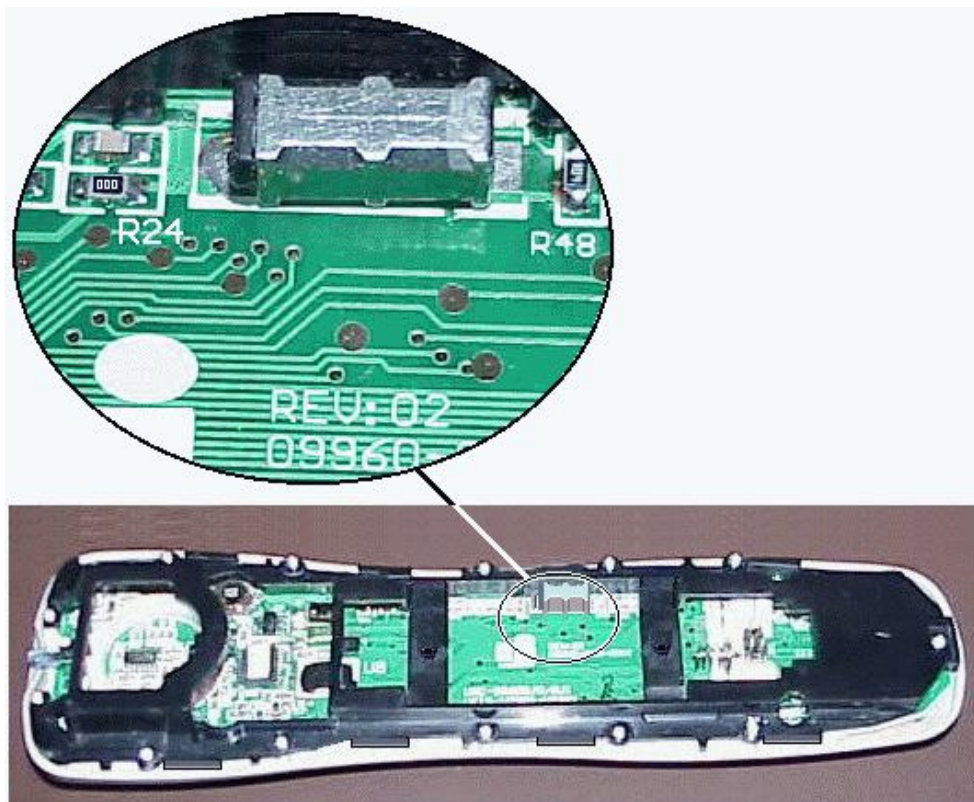

Figure 3. Motion Sensor Switch on Main Circuit Board
Figure 3 shows the underside of the upper assembly, with the motion sensor soldered to the circuit board. All the stuff we're interested in is accessible without any further mechanical disassembly. If you're curious about what's inside the sensor, take a look at Figure 4. The sensor consists of a tin-plated cylinder containing two 1/8 inch diameter gold-plated balls. The open end of the cylinder is sealed with a plastic plug that contains a gold-plated cup-shaped contact on the inside, connected to a bent wire lead. The metal cylinder is one contact of the switch, and the cup is the other.
4. THE BEST WAY TO DEACTIVATE THE MOTION SENSOR. If you've had it with motion sensing and your goal is to completely deactivate the sensor switch, cutting its wire lead will do the trick, but that's a somewhat crude and irreversible method. Cutting a gap in the clad at either end with an Exacto knife is a bit more elegant. But I prefer another method that is even less destructive and easier to undo in case you ever change your mind. See that little chip resistor labeled R24 in Figure 3. The chip is marked with its resistance, "000", which means it is zero ohms, or really just a jumper in series with the sensor switch. Remove that jumper by placing the tip of your soldering iron on one end for a couple of seconds, then move quickly to heat the other end and sort of flick the chip off its solder pads. Very often the chip will just stick to the soldering iron. Don't worry about damaging the resistor, since you won't need it again. You'll be left with a couple of little solder bumps on the resistor's mounting pads. If you ever decide to reactivate the motion sensor you can either replace the zero ohms chip resistor, or just jumper those bumps together with a blob of solder or a short wire.